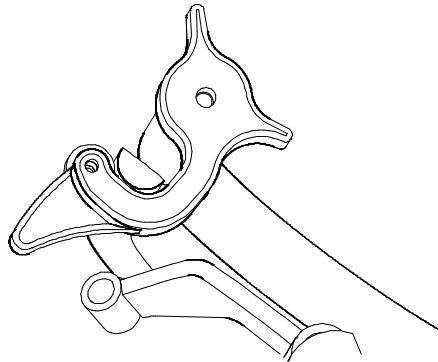

FIGURE 20
1. With rear of machine still on jack stands and engine running at full throttle, disengage the park brake and move the speed control lever to the midway position. Move the respective drive lever upward until it reaches the **neutral** position and engage neutral lock latches. See Figure 20. If the tire rotates in either direction, the length of the drive lever link will need to be adjusted.